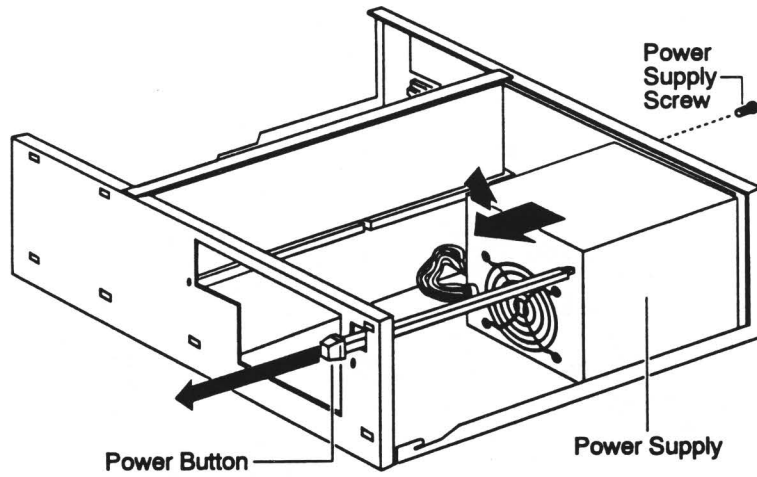

Figure 4-5. Power Supply
2. Locate the power supply button in Figure 4-5 and pull it out of the power supply.
4. Remove the power supply by sliding it forward and upward as illustrated in Figure 4-5.